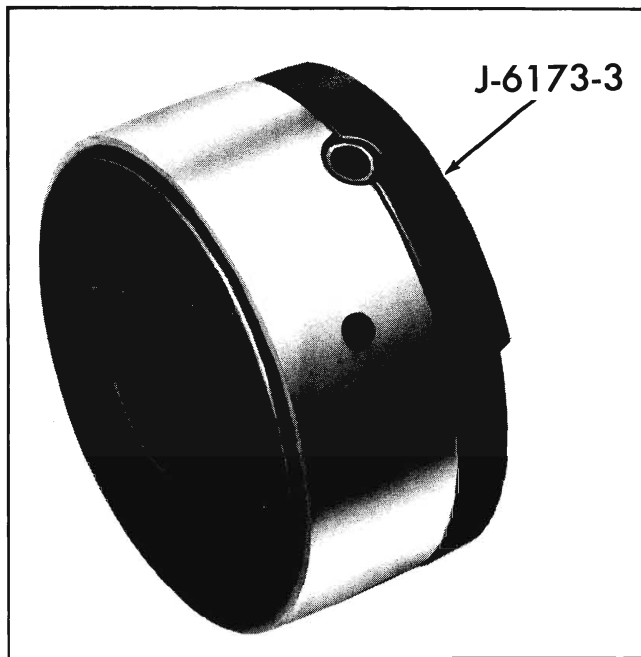

Fig. 6-43 Bearing Installed on Replacer Adapter
4. Coat outside of new bearing with oil and place it over Replacer Adapter J-6173-3, indexing notch in edge of bearing with pin on Replacer Adapter (Fig. 6-43).